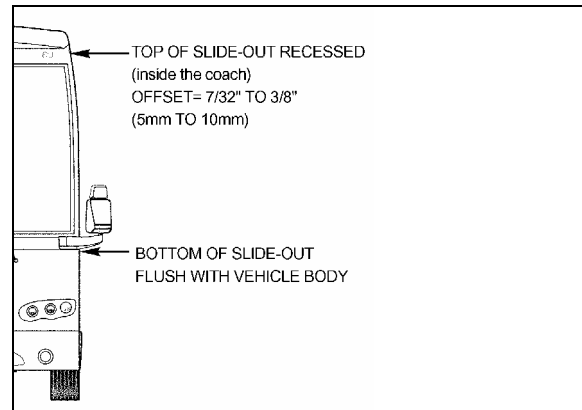

FIGURE 23: TILT ADJUSTMENT
5. Using levelling screw 3, adjust the tilt in order to have the top of the slide-out recessed between 5mm and 10mm (7/32” and 3/8”) (see FIGURE 23).